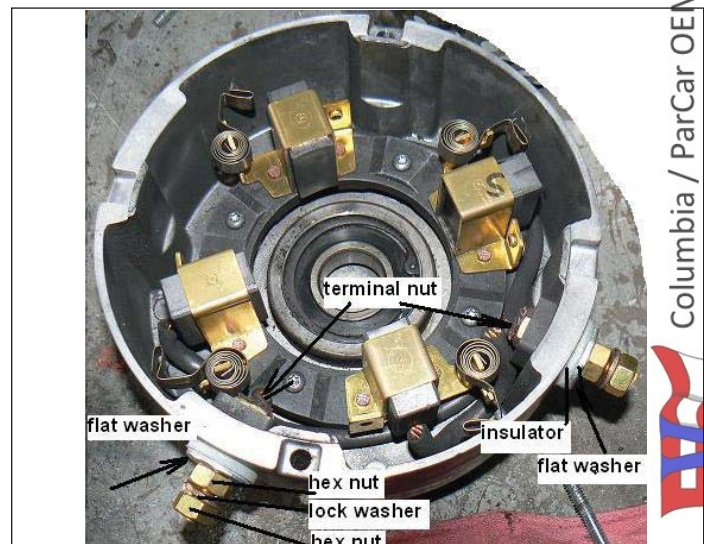

Figure 10-17. Brushes and Terminal Attaching Parts
4. Install insulators and brush leads into motor head. See Figure 10-17. Brush motor terminals, A1 and A2, should be torqued to 140 in. lbs. (15.8 Nm).